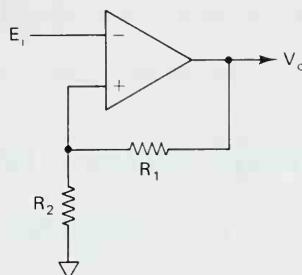

FIGURE P4-2
- 4-2.** In Fig. P4-2, $R_1 = 25$ k Ω and $R_2 = 5$ k Ω . Assume for simplicity that $\pm V_{sat} = \pm 15$ V. Calculate (a) V_{UT} ; (b) V_{LT} ; (c) V_H .